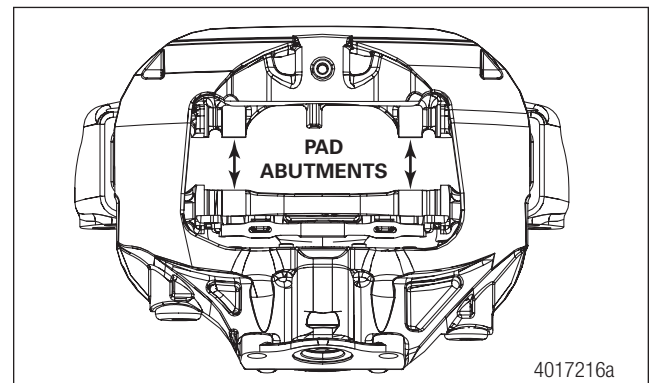

Figure 6.10 Pad Abutments
- Inspect the carrier for signs of damage or wear. Pay particular attention to the pad abutments. Check for grooves on the pad abutments in excess of 0.02 inch (0.5 mm). Look for any carrier wear or damage that would cause the pad backing plate to catch and/or become cocked. Figure 6.10.